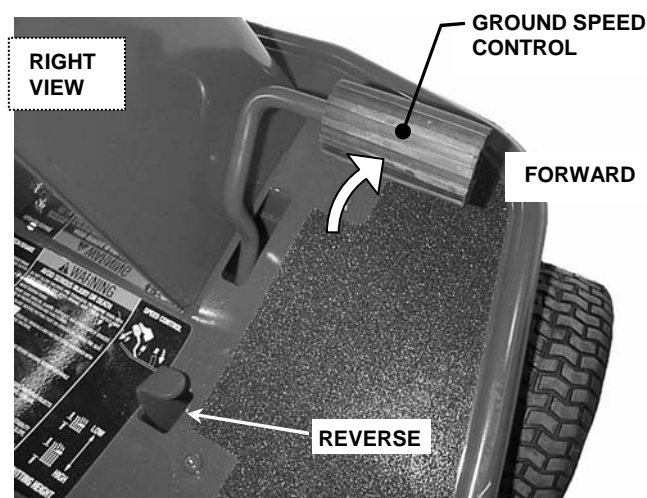

FIGURE 2.10B
3. Depress the ground speed pedal slowly to propel machine in the desired forward or reverse direction. See Figure 2.10B. Pressing the ground speed pedal forward will cause the machine to move forward. Pressing down on the rear of the pedal will cause the machine to move rearward. Removing foot from ground speed pedal allows the control to return to neutral, stopping movement of the machine. Neutral is not a parking brake setting. The machine's brake is controlled with the clutch/brake pedal. Refer to Section "STOPPING WHEEL DRIVE". Forward and reverse ground speed is controlled by the amount the ground speed control pedal is depressed. See Figure 2.10B. Move pedal slowly. DO NOT make sudden speed or direction changes.